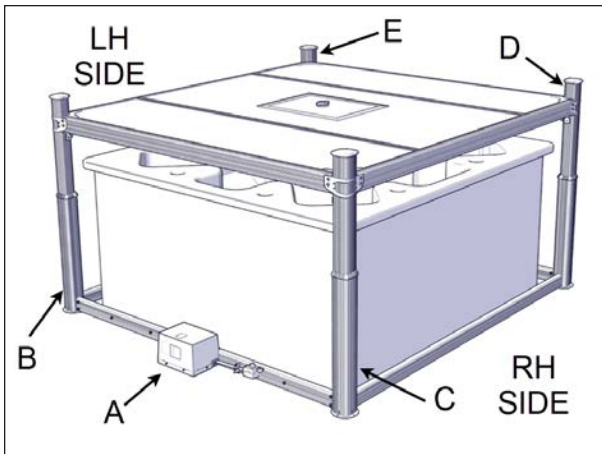

FIGURE 32: OPERATOR AND JACKS INSTALLATION
1. Install the motor frame in place, usually to the opposite side of the spa entrance, see Figure 32. The motor frame must be installed on the short side of the cover.